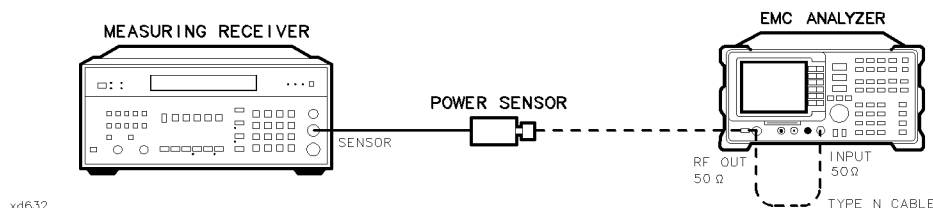

Figure 2-74.
1. Connect the Type N cable between the RF OUT 50 Ω and INPUT 50 Ω connectors on the EMC analyzer. See Figure 2-74.
5. Disconnect the Type N cable from the RF OUT 50 Ω and connect the 100 kHz to 2.9 GHz power sensor to the RF OUT 50 Ω . See Figure 2-74.